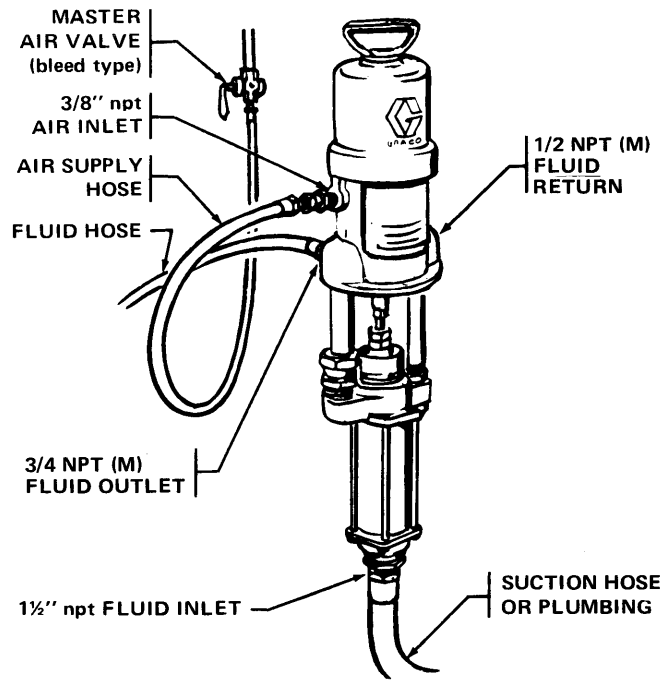

Fig 1
Connect a 3/8 ID (minimum) air supply hose to 3/8 npt inlet union. Main air line should include a bleed type valve for shutting down and relieving air pressure. See Fig 1.
Connect a 3/4 ID (minimum) fluid hose to the 3/4 NPT (M) outlet of pump with a suitable adapter. See Fig 1.